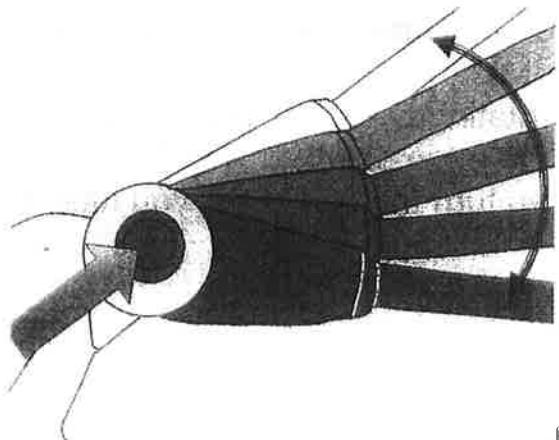

Fig.7
### 8.3 Adjust the cutting angle (Fig.7)
1. Disconnect the mains plug, Push the rotating knob(7) on the motor housing, and then rotate the housing to the edge position. (Fig.7)